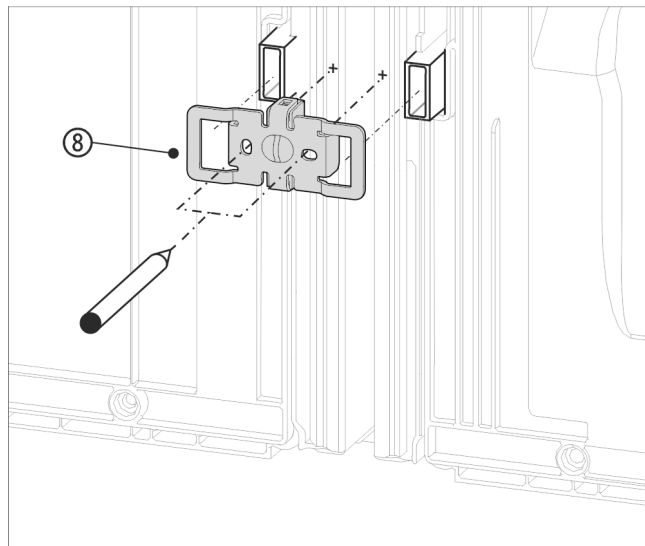

Fig. 16 Example illustration
- Slide the bracket Fig. 16 (8) on with the slots over the retainer for the wall spacers.